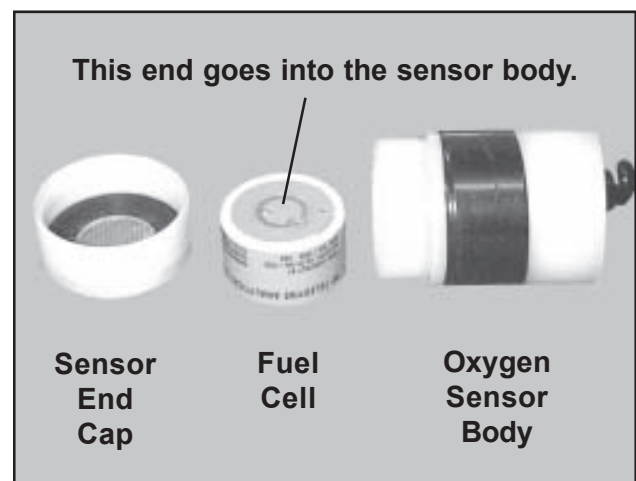

Figure 96. Fuel Cell and Oxygen Sensor Assembly
2. With the oxygen sensor in place in the partition wall, unscrew the end cap from the oxygen sensor (Figure 96).
5. Gently, screw the sensor end cap (Figure 96) back on. Be careful, the threads are very fine and are easily damaged.
3. Unscrew the end cap from the oxygen sensor (Figure 96).
6. Unscrew the end cap from the oxygen sensor (Figure 96).